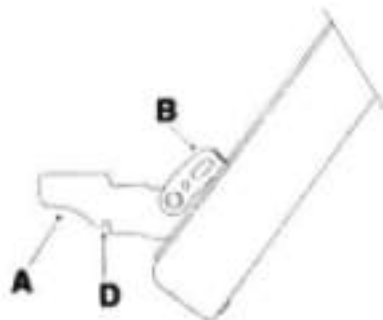

Fig 1
1. Open the door completely and lift the 2 levers "B" (fig1);